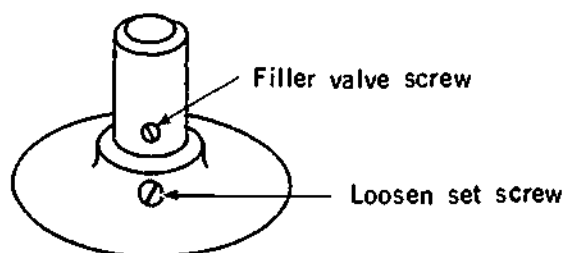

Figure 10-8
1. Loosen the set screw on the head casting at the base of the filler valve (Figure 10-8).